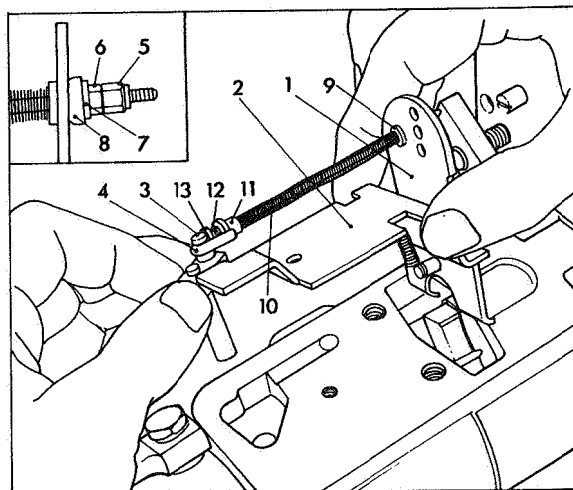

Fig 70 Removing governor linkage assembly
As shown in Fig 70 lift off as an assembly, governor arm (1) complete with control bracket (2), metering valve (3) and linkage hook assembly. Detach metering valve from linkage hook (4) and immerse in clean test oil. Dismantle governor spring linkage in the following sequence:— linkage locking nut (5), linkage nut (6), pivot ball washer (7), linkage pivot ball (8), linkage spring washer (9), long linkage spring (10), spring retainer (11), short linkage spring (12) and small spring retainer (13) from the linkage hook.